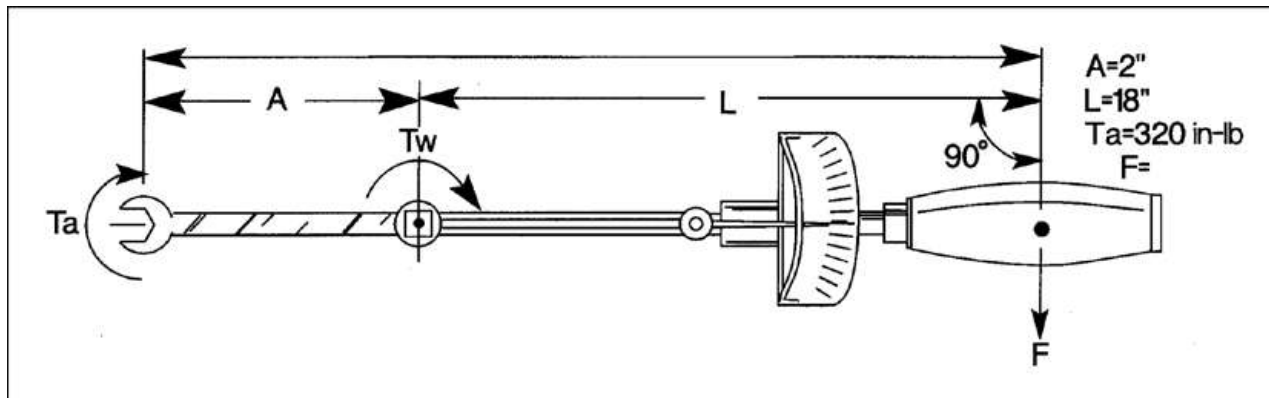

Figure 10. Torque Value
- 8384.** (Refer to Figure 10.) The trunnion nut on an aircraft landing gear requires a torque of 320 inch-pounds. To reach the nut, a 2-inch straight adapter must be used on an 18-inch torque wrench. How many foot-pounds will be indicated on the torque wrench when the required torque of the nut is reached?